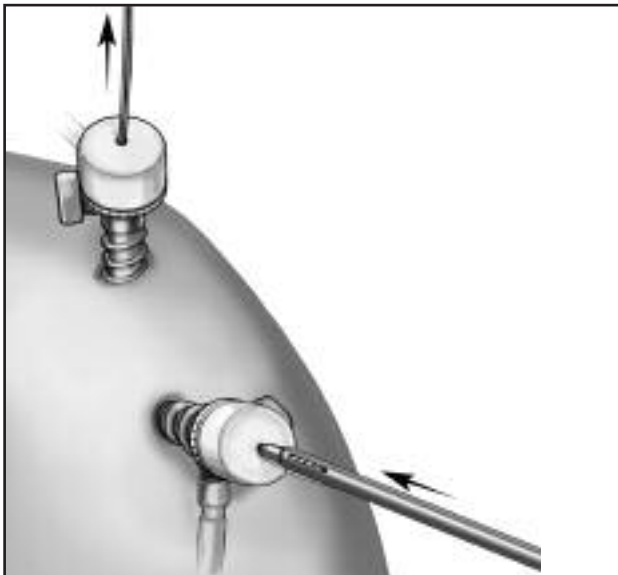

Figure 9
7. Advance the inserter down the operative cannula while pulling on the colored suture leader to remove slack (Figure 9). Advance until the loop of ULTRABRAID[®] Suture has passed through the soft tissue and is visible on both sides of the tissue (Figure 10).